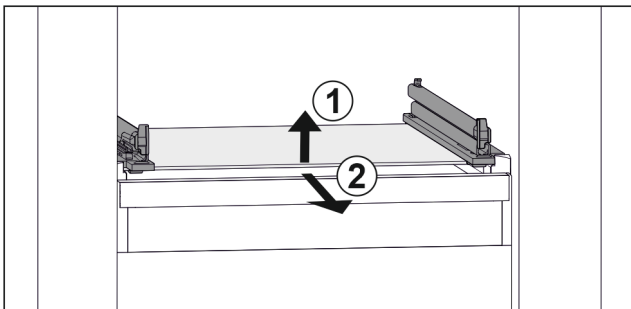

Fig. 39 Example illustration of glass shelf
- Lift glass shelf at the front. Fig. 39 (1)
- Remove glass shelf to the front. Fig. 39 (2)